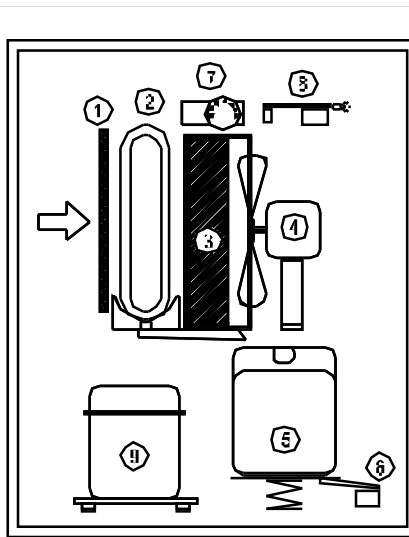
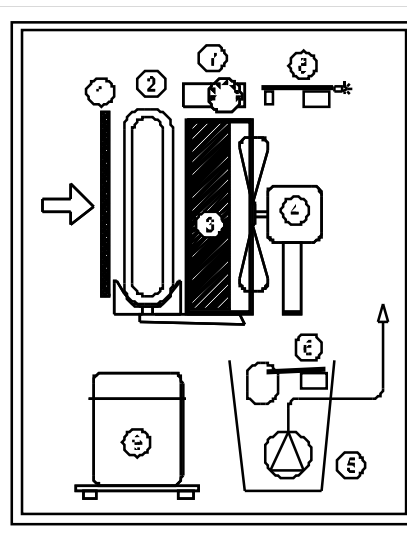

Fig. 2
Fig. 3
Some models have a different water tank stop device and use a gravity system (fig. 2) instead of the floating ball. Fig. 3 refers to the machine provided with lifting pump, which includes a water collection tank (5) and a floating ball stopping device for full tank (6), in case the pump would not unload properly.